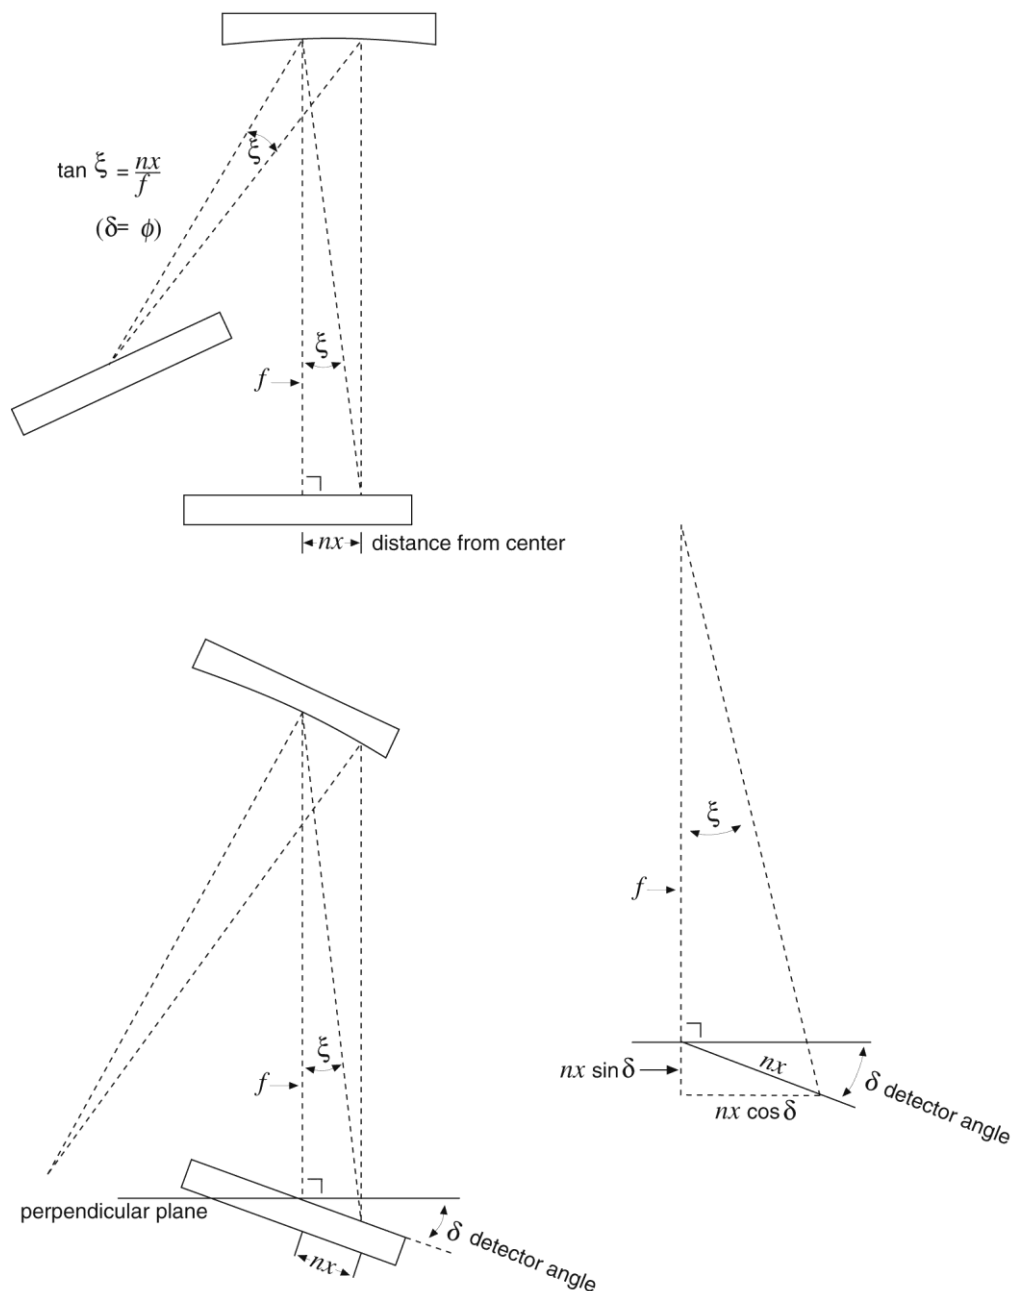

Figure 204. Relationship between ξ and the focal length, detector angle, and the distance of λ' from image plane
Note that the wavelength at the **center** of the exit plane does not depend on the focal length, f . However, the wavelength at points off center depends on both the focal length and the detector angle, δ (the angle of the image plane relative to the plane perpendicular to the spectrograph focal axis at the center of the image plane; see Figure 204). For some wavelength λ' relatively close to λ (at the same grating angle),
$$\tan \xi = (nx \cos \delta) / (f + nx \sin \delta), \text{ as shown in Figure 204.} \quad (4)$$